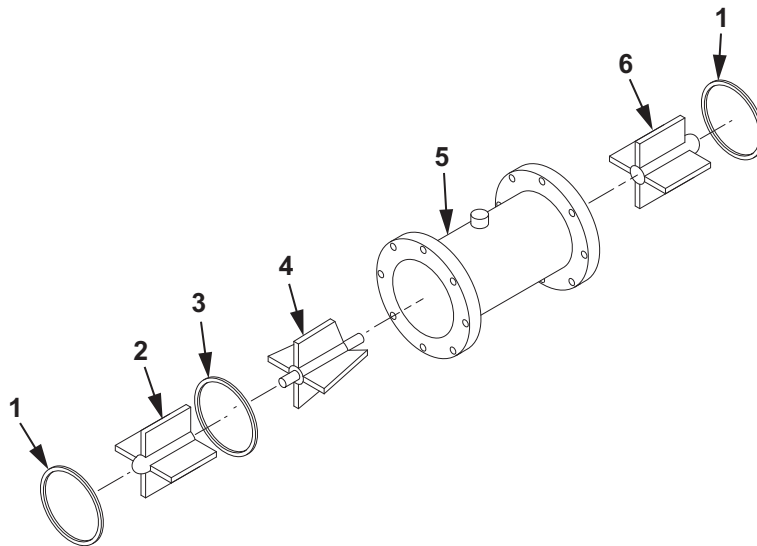

Figure 2. Tank Output Volume Meter Disassembly.
1. Remove retaining rings (Figure 2, Item 1) from flowmeter (Figure 2, Item 5).
2. Remove forward rotor support (Figure 2, Item 2) from flowmeter (Figure 2, Item 5).
3. Remove rear rotor support (Figure 2, Item 4) from flowmeter (Figure 2, Item 5).
4. Remove retaining rings (Figure 2, Item 3) from flowmeter (Figure 2, Item 5).
5. Remove rotor (Figure 2, Item 4) from flowmeter (Figure 2, Item 5).
1. Install rotor (Figure 2, Item 4) in flowmeter (Figure 2, Item 5).
2. Install retaining ring (Figure 2, Item 3) in flowmeter (Figure 2, Item 5).
3. Install rear rotor support (Figure 2, Item 6) in flowmeter (Figure 2, Item 5).
4. Install forward rotor support (Figure 2, Item 2) on rotor (Figure 2, Item 5).
5. Install retaining ring (Figure 2, Item 1) in flowmeter (Figure 2, Item 2).